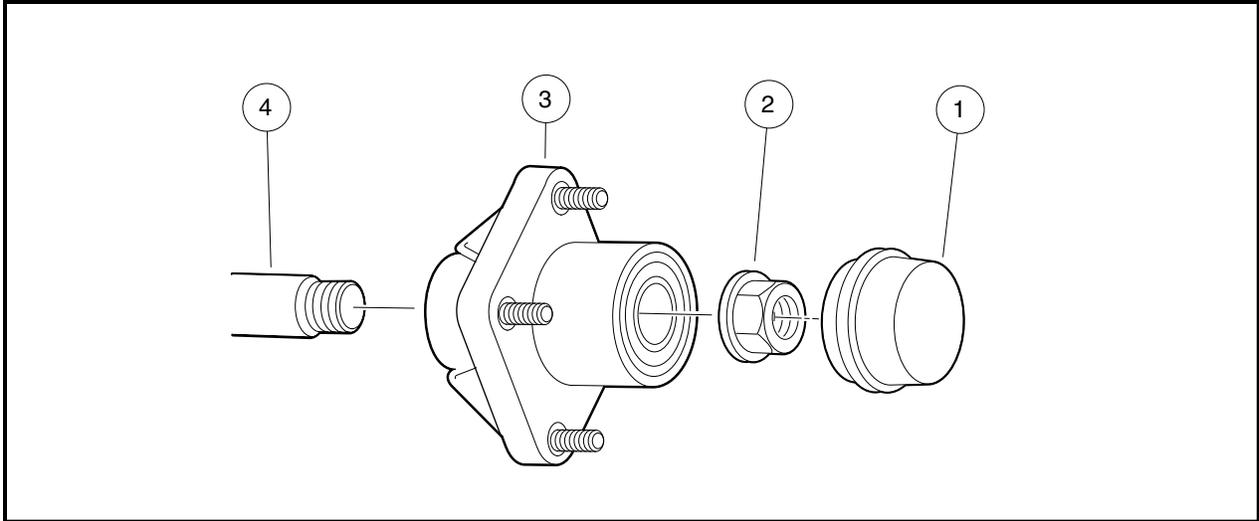

Figure 7-22 Front Wheel Hub
2. Remove dust cap (1) and lock nut (2) (**Figure 7-22, Page 7-21**).
3. Slide the hub assembly (3) off of the spindle shaft (4).
2. Slide the hub assembly (3) onto the spindle shaft (**Figure 7-22, Page 7-21**).
5. Install the dust cap (1) using a rubber mallet and tapping lightly around the edge of the cap.